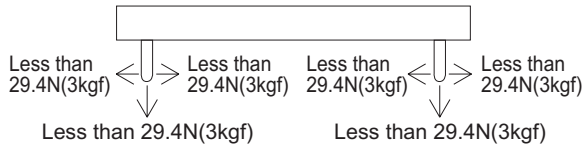

Fig.7.1 Stress onto the pin
- When too much stress is applied on the input/output pins of the unit, the internal connection may be weakened. As below Fig.7.1, avoid applying stress of more than 29.4N(3kgf) on the pins horizontally and/or vertically.